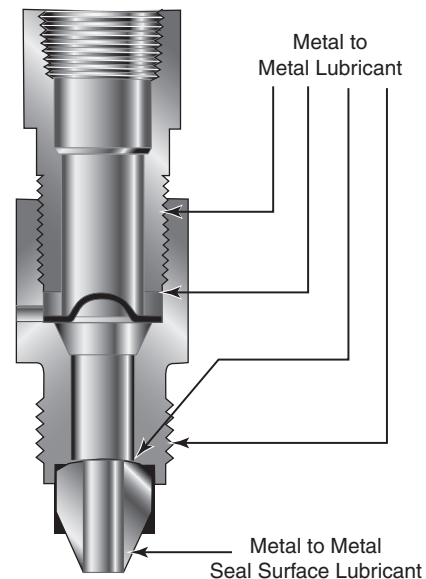

Figure 5
6. **Safety Heads/2-Piece Male/Female Adapters** - The threads and end of the hold down nut in Safety Head should be lubricated. Refer to Figure 5 for lubrication sites on the safety head.